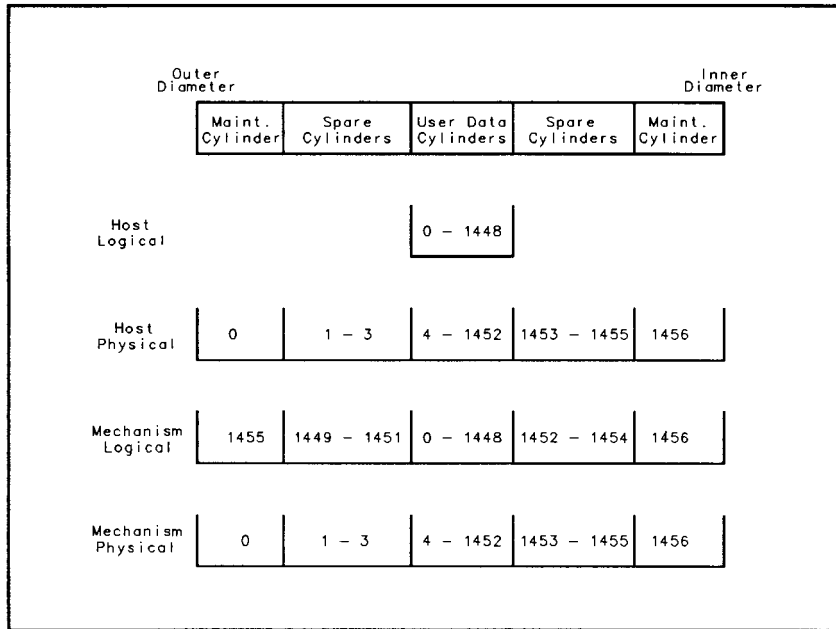
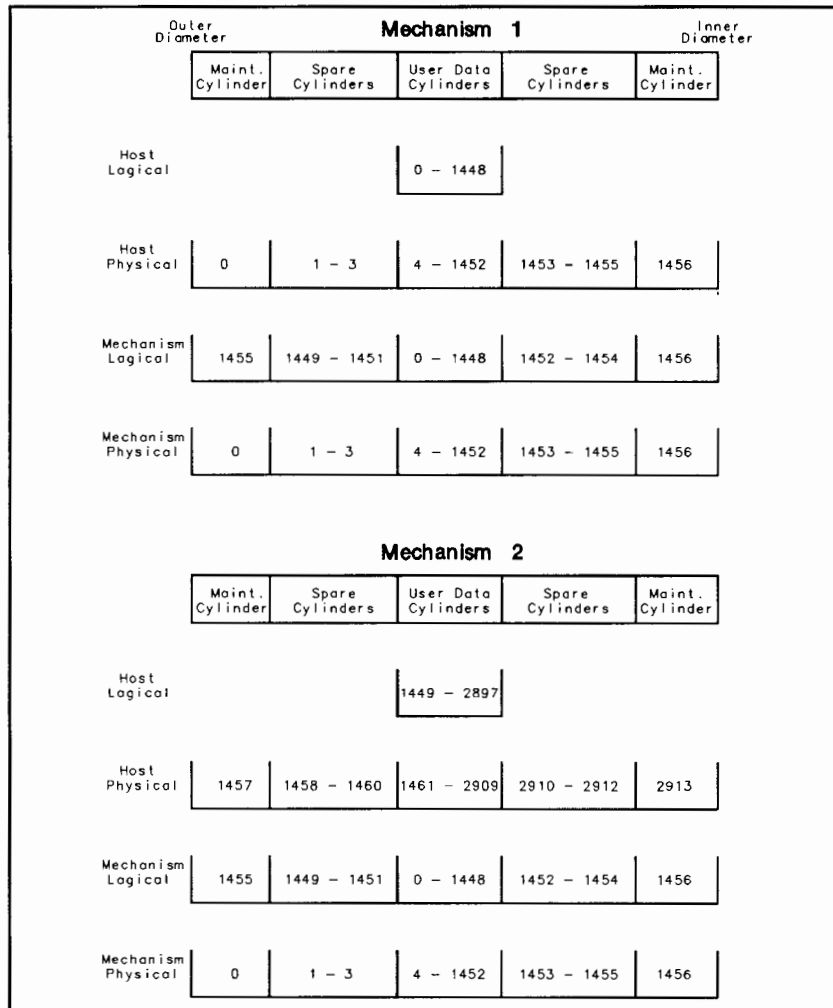

Figure 10-6. Single Mechanism Cylinder Addressing
Figure 10-7. Dual Mechanism Cylinder Addressing
The surface of each disk is organized into a series of concentric tracks, with each track subdivided into sectors. Each disk surface contains 1457 tracks allocated as follows: 1449 user data tracks, 6 spare tracks, and 2 maintenance tracks. The physical layout of each disk surface is shown in Figure 10-6.
Each data location on the disk media is identified by both a logical and physical address. The two addresses differ because physical addressing takes into account the presence of nondata tracks such as maintenance and spare tracks, and logical addressing does not. The relationship between logical and physical cylinder addresses for a single-mechanism disk storage system is shown in Figure 10-6, and for a dual-mechanism disk storage system in Figure 10-7.
The addressing scheme used on the dual-mechanism model 1.34FL disk storage system involves an additional feature. In addition to identifying the cylinder, head, and sector, the disk storage system must also be able to identify which disk mechanism is being addressed. This is accomplished by doubling the range of cylinder addresses and dividing them between the two disk mechanisms. This allows the disk storage system to use the cylinder address to select the proper disk mechanism. As shown in Figure 10-7, cylinder addresses 0 through 1448 select disk mechanism 1, and cylinder addresses 1449 through 2897 select disk mechanism 2.
The FLEXDIAG diagnostic program allows testing a dual-mechanism 1.34FL disk storage system at the unit (disk storage system) or mechanism level. When performing tests on an individual mechanism, the addressing structure is identical to that for a single-mechanism disk storage system. See Figure 10-7. To properly interpret addresses when testing a dual-mechanism disk storage system, you must remember whether the testing is being performed at the unit or mechanism level.
If the spare sector has been used, the disk storage system must move the entire track to an available spare track. Each data head has 6 spare tracks allocated for this purpose. To improve performance, the spare tracks are located in two areas: three at the inner diameter (ID) of the disk, and three at the outer diameter (OD). See Figure 10-6.